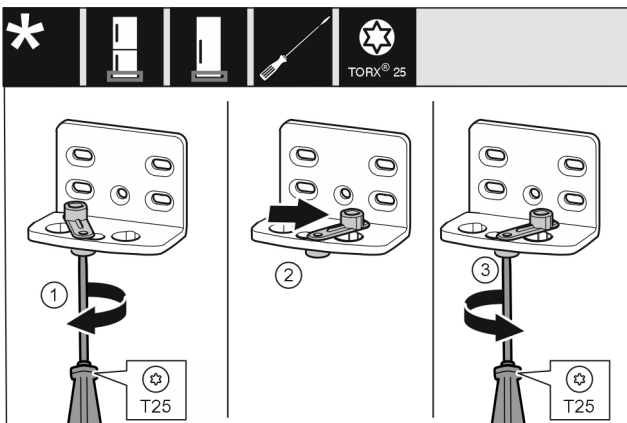

Fig. 13
- Use screwdriver to loosen the screw Fig. 13 (1).
- Lift the door closing aid Fig. 13 (2) and turn 90° clockwise in the hole.
- Tighten screw Fig. 13 (3) with screwdriver.